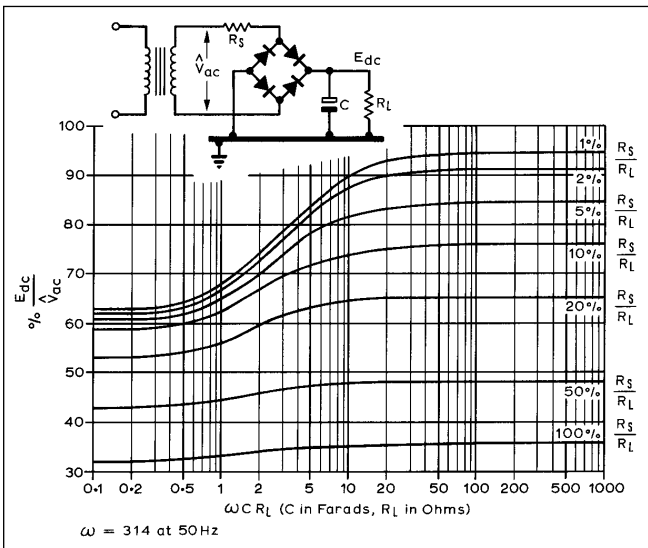

Fig 23.6: Output DC voltage as a percentage of peak AC input voltage for a bridge rectifier with capacitor input filter
Fig 23.5 shows voltage and current waveforms of the capacitor as it charges up during part of the cycle and discharges during the rest. The ratio of output voltage to peak input voltage depends on the value of the capacitor, the load and effective resistance in series with the rectifier. Fig 23.6 shows the relationship graphically being 2π times the input frequency.
- 5 Assume $\omega CR_L = 100$ (this is an arbitrary choice based on the need for low ripple voltage - see later), so $E_{DC}/E_{peak} = 0.95$ (from Fig 23.6 which also shows that there is not much to be gained by increasing ωCR_L further). Therefore the secondary voltage = $13.8/0.95 = 14.5$. However this does not include the voltage drop in each diode of about 1.5V (a total of 3V) so the secondary voltage required is 17.5V .